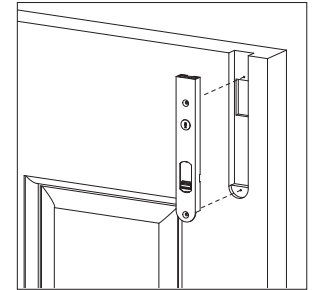

Figure 4.
4.1. Insert the bolt into cavity and drill two 2mm pilot holes at 6 and 12 o'clock – ensure that screws are not longer than the thickness of the door. (Figure 4).